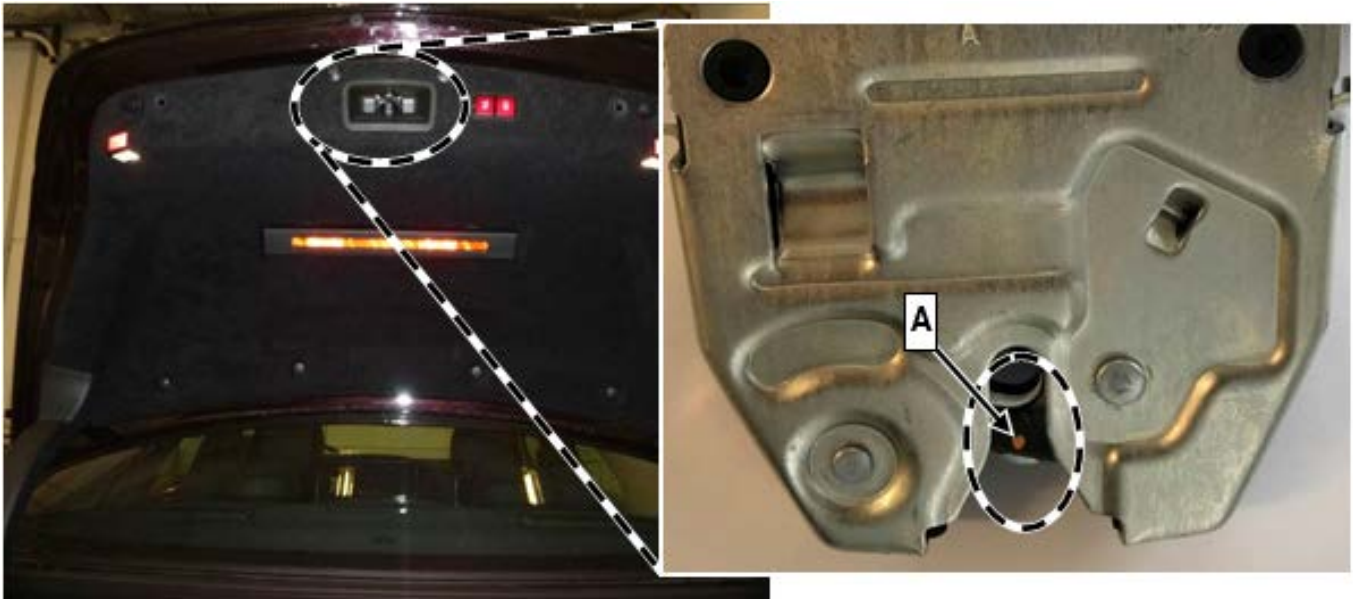

Figure 1
1. Open the trunk lid and check the **orange** marking (A, figure 1) on the lock for the trunk lid.